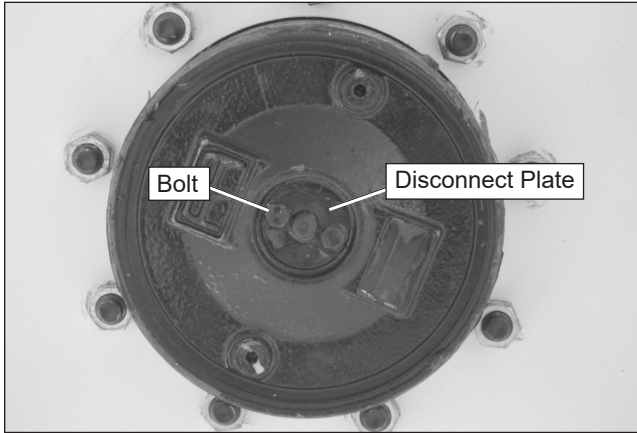

Figure 10.7 – Drive Wheel
10. At each drive wheel, remove the two bolts from the disconnect plate (refer to Figure 10.7). Turn the plate over so the nipple points inward. Reinstall the two bolts.
13. At each drive wheel, remove the two bolts and return the plate to its original position as shown in Figure 10.7.